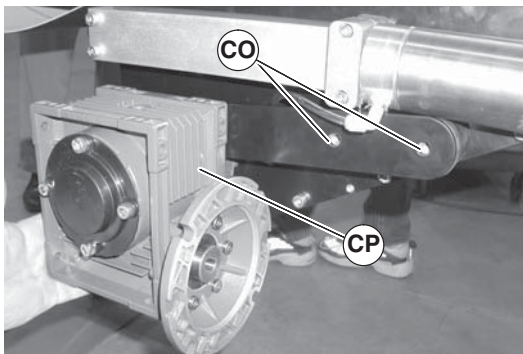
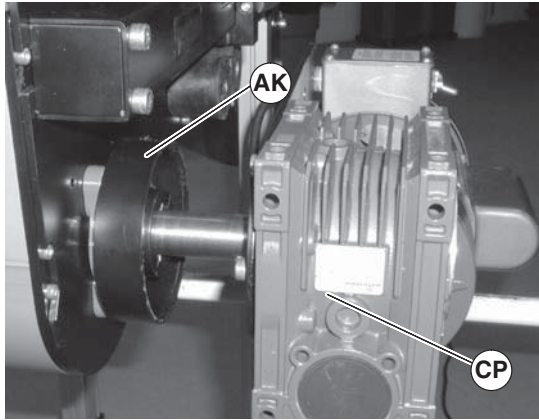

Figure 86
Figure 90
2. Remove screws (Figure 86, item CO) and remove gearmotor (CP) (Gearhead shown with motor removed for clarity, motor can remain attached to gearhead).
9. Reinstall spacer ring (Figure 90, item AK) and gearmotor (CP). Tighten screws (Figure 86, item CO) to 150 in-lbs (17 N-m).